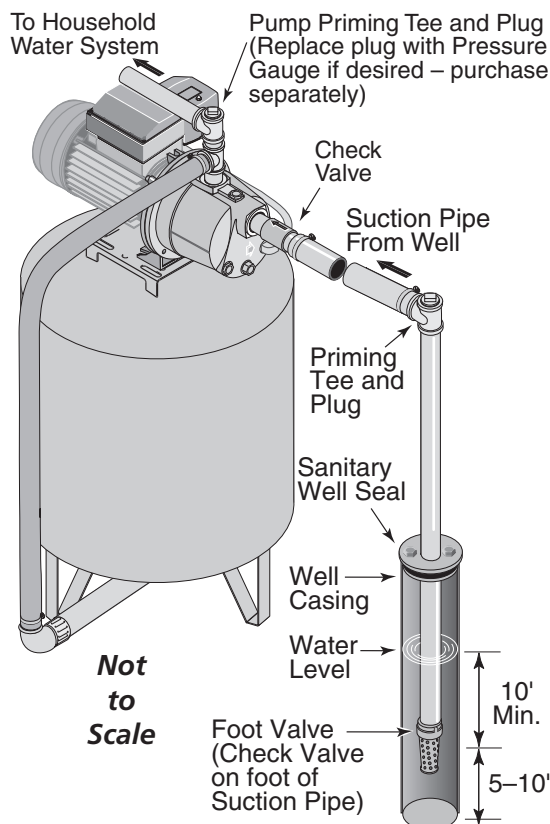

Figure 2 – Cased Well Installation
CASED WELL INSTALLATION, 2" OR LARGER CASING (FIGURE 2)
2. Assemble the foot valve, strainer, and well pipe (see Figure 2). Make sure that the foot valve works freely.
4. Install a priming tee, priming plug, and suction pipe to the pump (see Figure 2). Connect the pipe from the well to the pump suction port, using the fewest possible fittings – especially elbows – as fittings increase friction in the pipe (however, include a foot valve – see Figure 2). The suction pipe should be at least as large as the suction port on the pump. Use teflon tape on threaded pipe joints. Support the pipe so that there are no dips or sags in the pipe, so it doesn't strain the pump body, and so that it slopes slightly upward from the well to the pump (high spots can cause air pockets which can air lock the pump). Seal the suction pipe joints with teflon tape. Joints must be air-tight and water-tight. ***If the suction pipe can suck air, the pump cannot pull water from the well.***